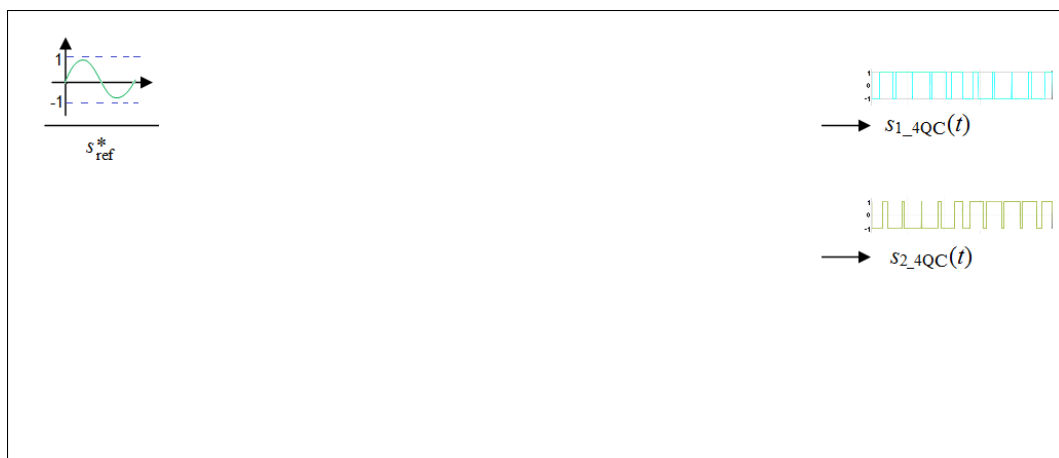

Figure 3.2: PWM unit for interleaved switching mode
**3.1** Draw the structure of the PWM unit for interleaved switching mode in Figure 3.2. Input is the normalized reference voltage, output are the two switching signals for the two branches of the 4QC.